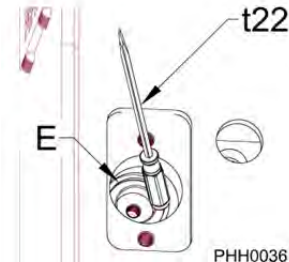

Figure 9
3. Coat the retaining pin (D) with grease, then install.
4. Install the retaining pin ring (E) by using the handle of a screwdriver (t22) as shown in Figure 9.